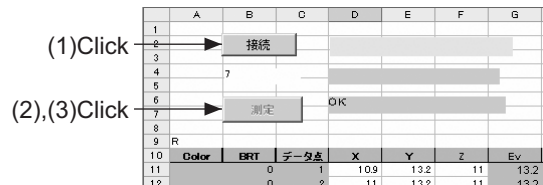

Fig.1
- (1) Open the Black (GAMMAOFF) sheet in the GAMMA adjustment file and click [CONNECT] in the same way as the DC adjustment. Refer to Fig.1.
- (2) On completion of the connection, click [MEASURE]. Refer to Fig.1.
- (3) On completion of the measurement, click [CONNECT] again to disconnect the system. Refer to Fig.1.